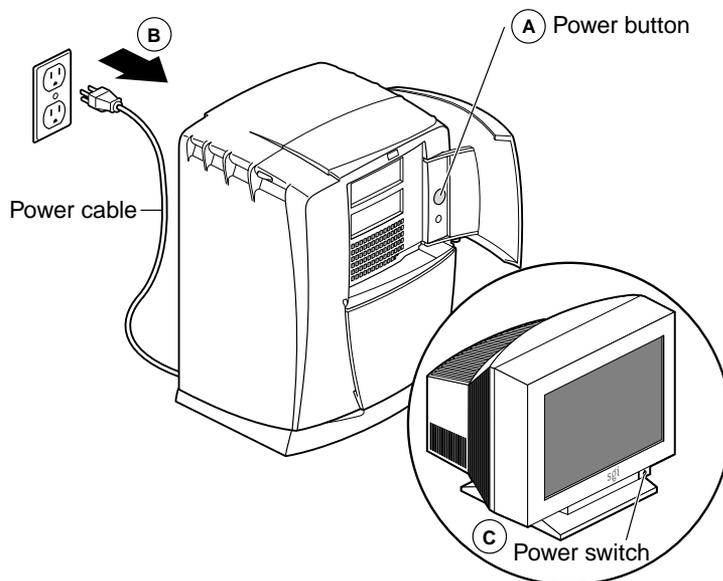

Figure 1-3 Powering Off Your Workstation
1. Open the cover and press the power button to power off your workstation (see A in Figure 1-3).
2. Unplug the power cord (B).
3. Press the monitor power switch to power off your monitor (C).